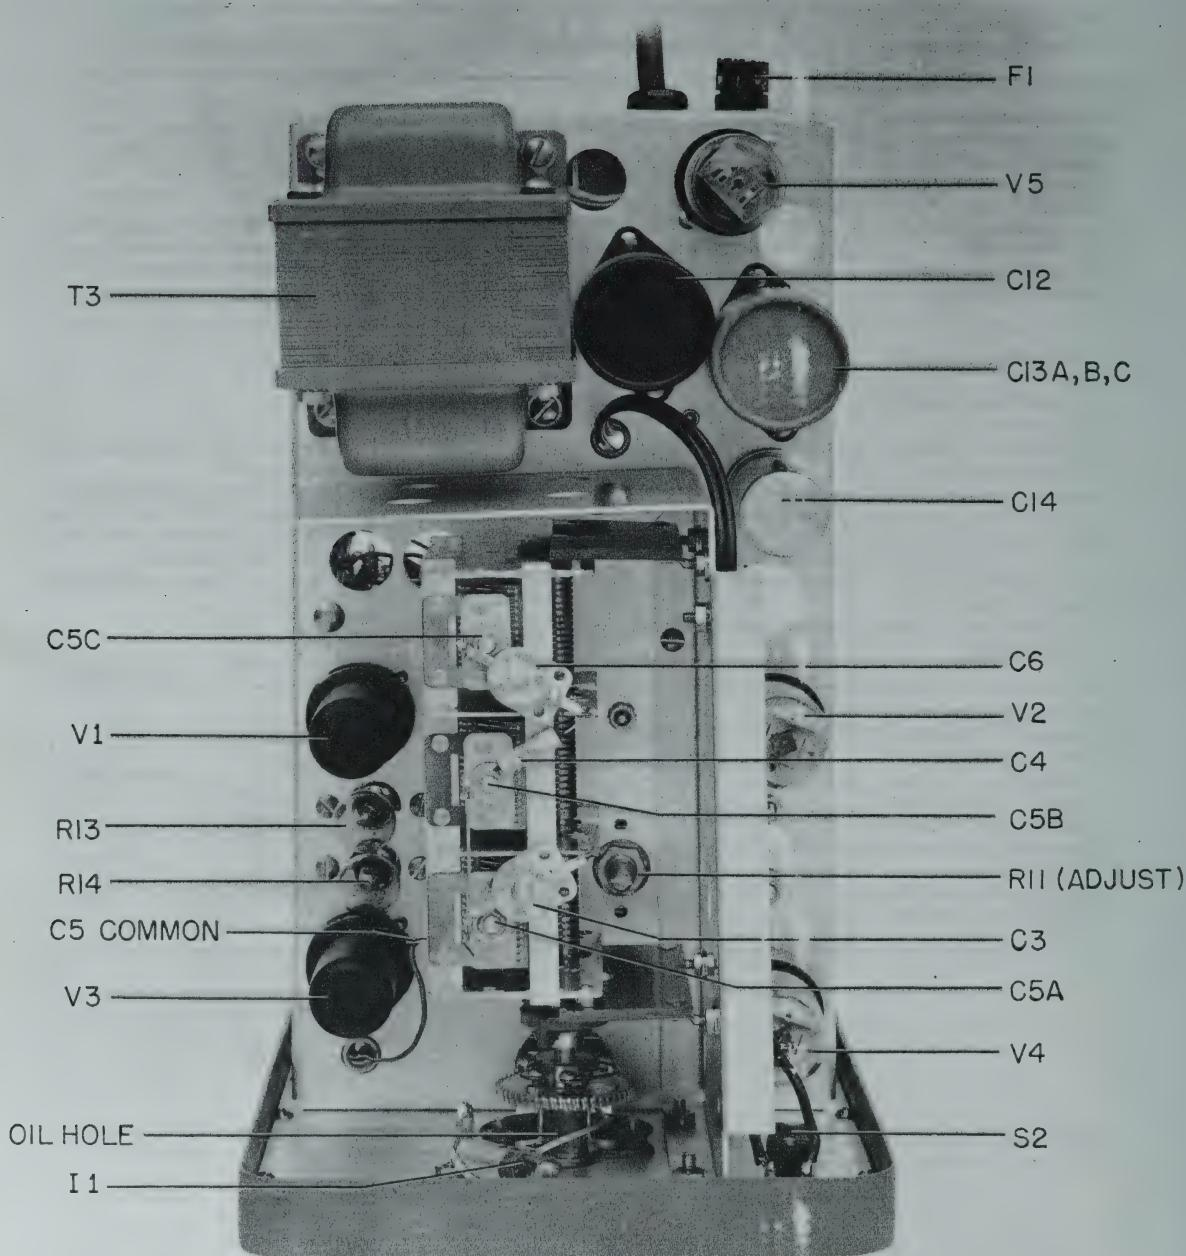

Figure 4-2 Model 200CD Top View Cover Removed
- 2) With alignment tool, adjust either trimmer (C3 or C6 [Figure 4-2]) to bring "60" on calibration. (Seldom necessary to adjust both trimmers.)
2) If "60" on X10K range not on calibration, adjust C7 (Figure 4-2).